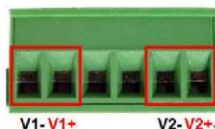

Figure 2.6 - Power Terminal Block
1. Insert the positive and negative wires into the PWR1 (V1+, V1-) and PWR2 (V2+, V2-) contacts on the terminal block connector as shown below in *Figure 2.6*.